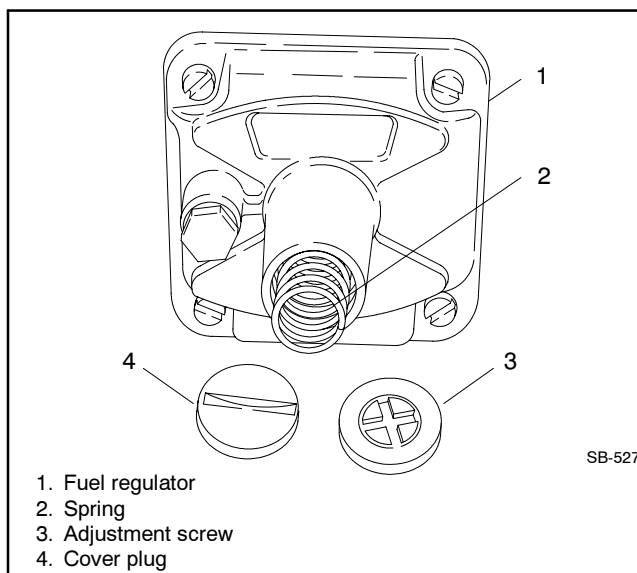

Figure 3-5 Fuel Regulator, Typical
1. Remove the fuel regulator cover plug. See Figure 3-5.